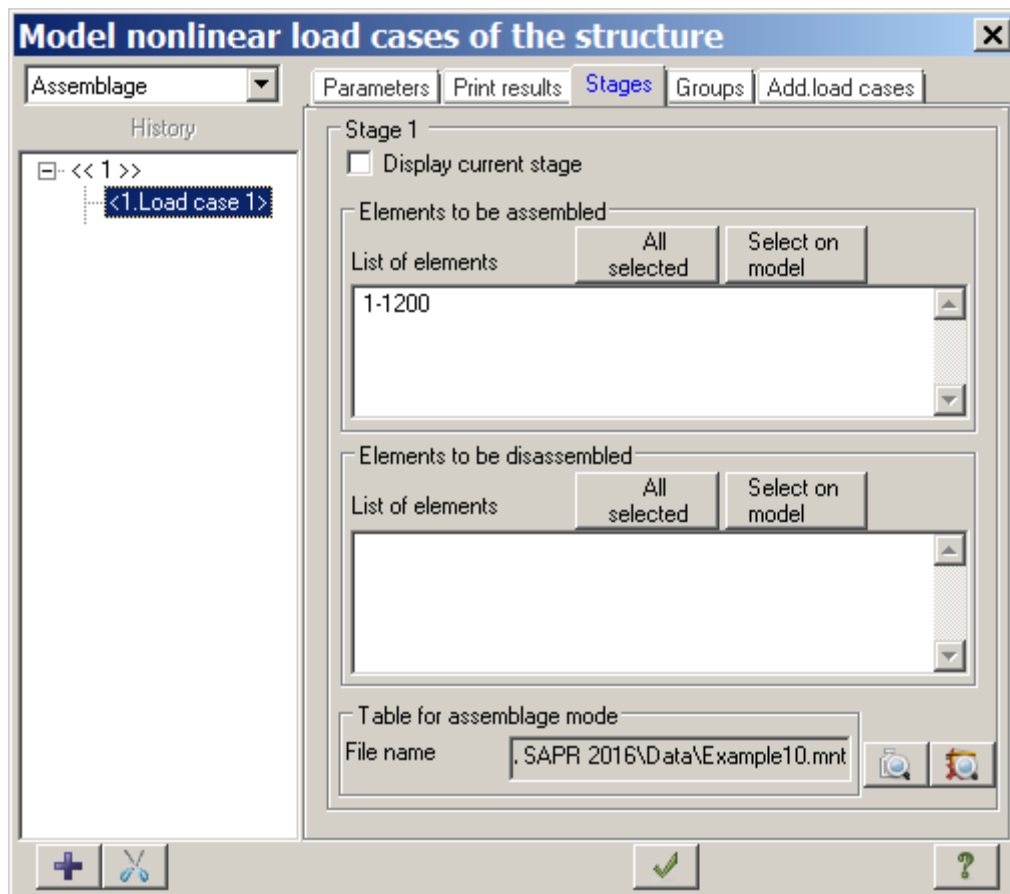

Figure 10.20 **Model nonlinear load cases of structure** dialog box
- ⇒ In the **Model nonlinear load cases of structure** dialog box (see Figure 10.20), click the **Add** button  (in the left part of the dialog box, under **History**, the first load history is added and the row with load case indicated with question mark will become selected automatically).